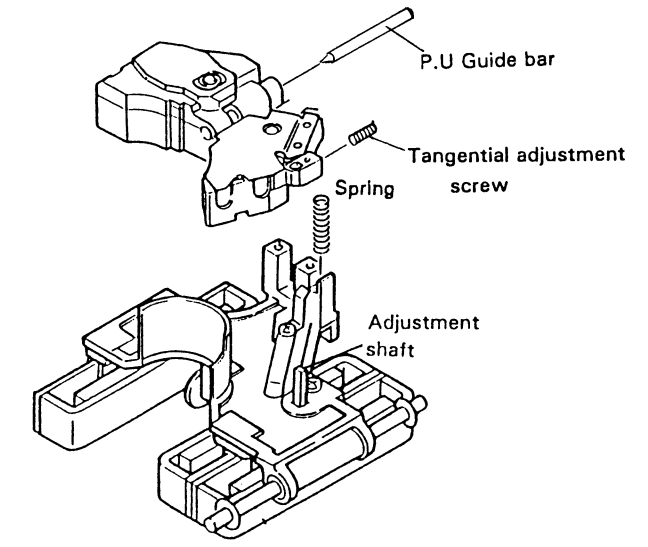

Figure 2
2. When installing the pickup assembly, fix the tangential adjustment screw while taking care of the cavity in the adjustment shaft as shown in Fig. 2.